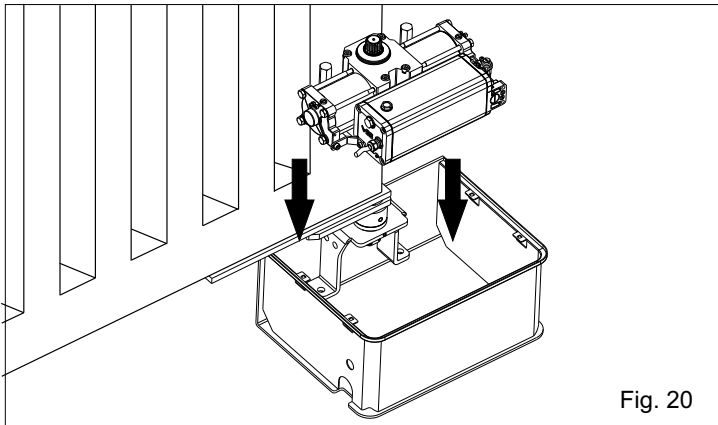
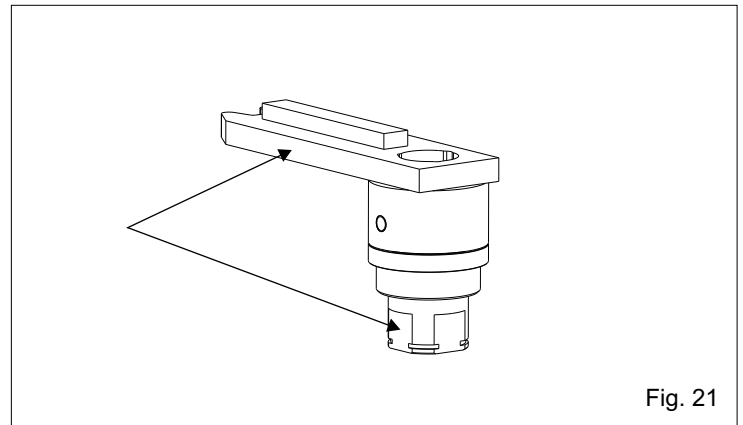

Fig. 20
Fig. 21
5.1. Insert manually the operator into the carrying box (Fig. 20) also insert the splined shaft of the operator into the splined bush of the box and fix the operator with the special screws as in Fig. 21.
N.B.: It is advisable to weld the crank with the crank shaft after having also installed the Compact, to use the whole available run and the point of beginning of the desired slowdown (version with hydraulic slowdown). Before welding, make sure that one of the level of the crank shaft corresponds with a side of the crank (see fig.21 and 22) to guarantee the maximum angle with the mechanical stops Kit.